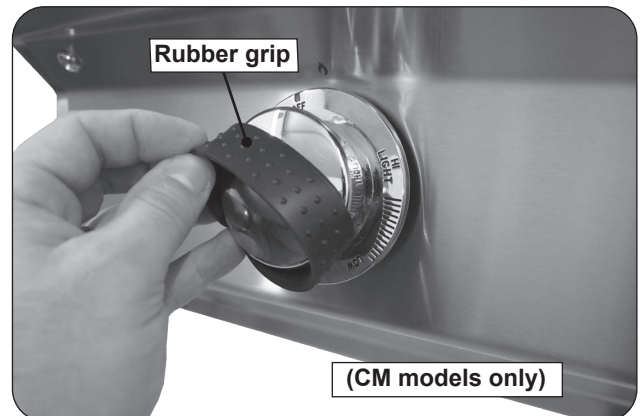

Fig. 31-3 Remove rubber grips (if applicable)
2. For CM models, remove the rubber grip from the control knob (see Fig. 31-3).